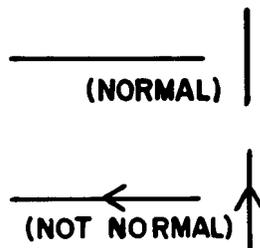

Fig. 19A—Unidirectional Flow
2.19 **The flow direction** (Fig. 19) is represented by lines drawn between symbols. Normal direction of flow is from left to right and top to bottom. When the flow direction is not left to right or top to bottom, open arrowheads shall be placed on reverse-direction flowlines as shown on Fig. 19A. When increased clarity is desired, open arrowheads can be placed on normal-direction flowlines. When flowlines are broken due to page limitation, connector symbols shall be used to indicate the break. When flow is bidirectional, it can be shown by either single or double lines, but open arrowheads shall be used to indicate both normal-direction flow and reverse-direction flow as shown on Fig. 19B.